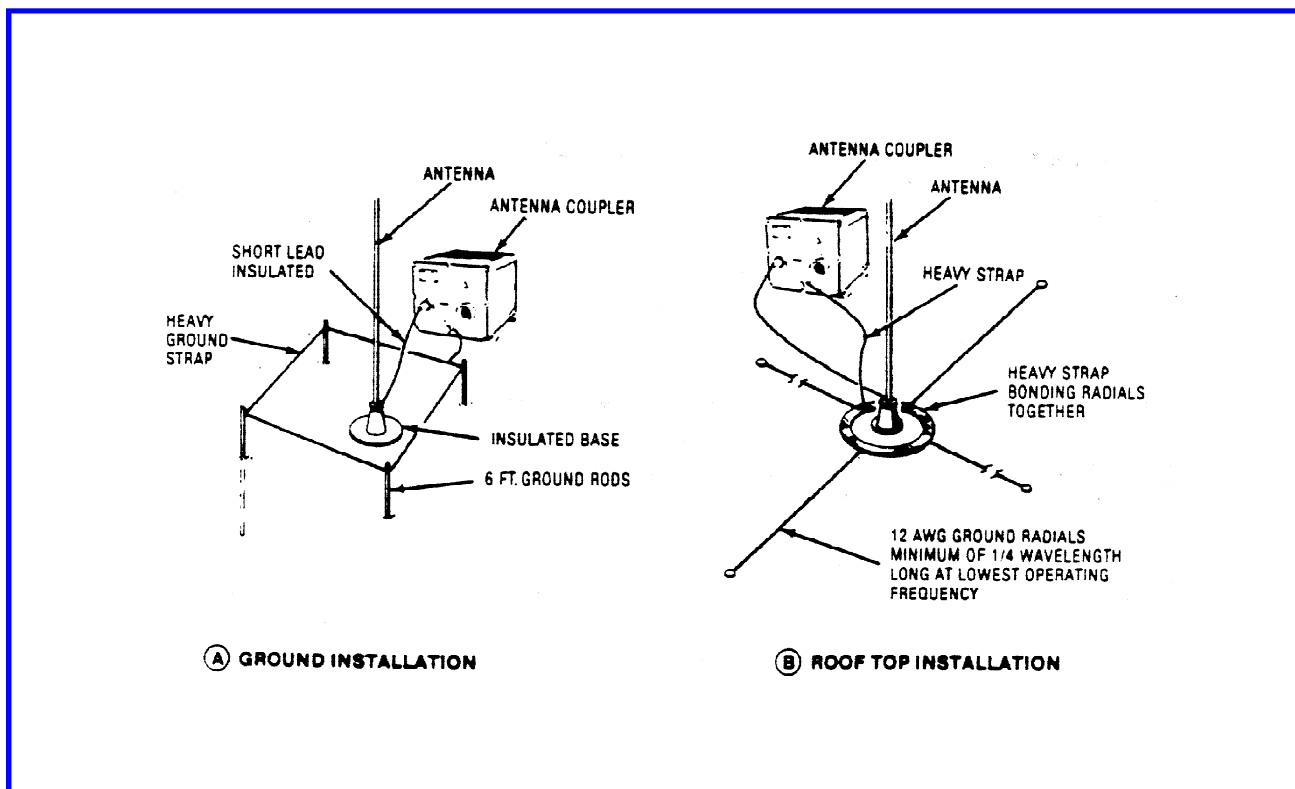

Figure 2.6 Whip Antenna.
- c) When using whip antennas, the ground system actually forms part of the radiating system. Where space permits (such as in a base station installation) a good ground plane or radial system should be installed at the base of the antenna. (See Figure 2.6)
Whips and longwires are popular non-resonant antennas. The whip antenna (illustrated in Figure 2.6), is often used in mobile, marine, portable or semi-portable installations because it is rugged and self-supporting. The antenna impedance is strongly dependent on the operating frequency, and an antenna coupler, therefore, must be used to match the antenna to the Transceiver/Exciter. Best radiation efficiency will be obtained if the antenna is at least $1/8$ wavelength long at the lowest operating frequency; however, this requirement does not result in a practical size antenna for low frequency operation. Thirty-five foot whip antennas offer a good compromise between practical height and good electrical performance at low frequencies. The antenna coupler is designed to efficiently match whip antennas of 15 foot length or greater. An efficient match may also be obtained for a 9 foot whip above 4 MHz. The whip's performance is greatly influenced by its ground system. For temporary base station installations, a minimum of four six-foot long ground rods should be driven into the ground symmetrically placed around the antenna base. The rods should be bonded together with heavy strap and then connected to the antenna coupler ground by another short heavy strap. If the antenna is mounted on the roof of a building where a short ground lead to coupler cannot be obtained, a minimum of four symmetrically placed ground radials should be installed at the base of the antenna, bonded together, and connected to the antenna coupler ground post. The radials should be made of number 12 gauge wire or larger and should be at least $1/4$ wave long at the lowest operating frequency. (Radial length in feet = $246/\text{frequency in MHz.}$) The whip's radiation pattern is omni-directional in the azimuthal plane.